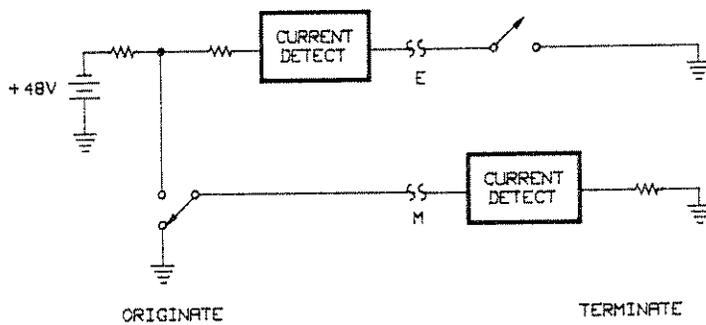

Figure 3-5. E/M Type I Signaling
E/M signaling is used primarily to signal the internal switching of the PBX or shorthaul trunks between two PBXs. E/M signaling uses a separate wire pair to send signaling information (E lead and M) from the pair used to send voiceband information (tip and ring). In addition, E/M Types II and III use sense ground (SG) and sense battery (SB) leads to improve signaling performance. (see Figures 3-5, 3-6, and 3-7)